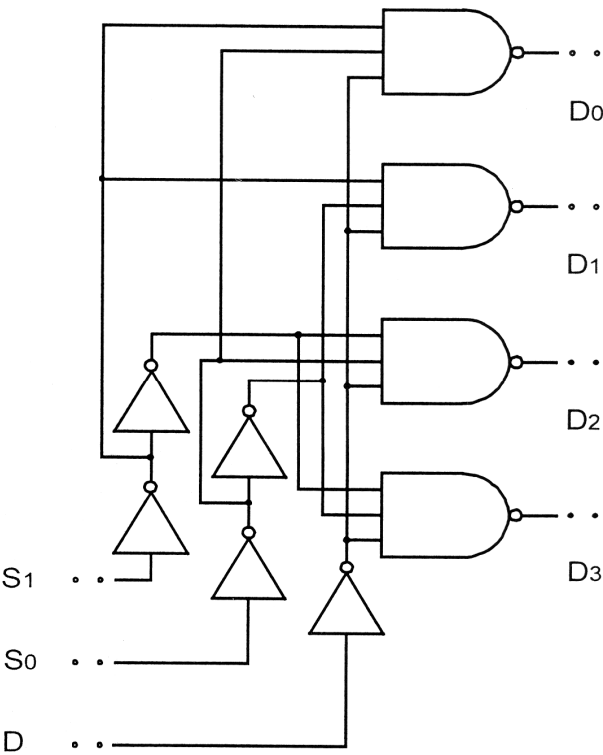

Figure 2
A demultiplexer is a circuit that receives information on a single line and transmits this information on one of  $2^n$  possible output lines. The selection of a specific output line is controlled by the bit values of  $n$  selection lines. 1 to 4 Line Demultiplexer is shown in figure 2 the single input variable D has a path to all four outputs, but the input information is directed to only one of the output lines, as specified by the binary value of the two selection lines S1 and S0. If the selection lines S1, S0 = 1, 0 output D2 will be same as the input value D, provided D = 0 while all other outputs are maintained at 1. For D=1.
6. Connect input D as per Truth Table 2a to 1 to 4 Line Demultiplexer circuit as shown in figure 2.